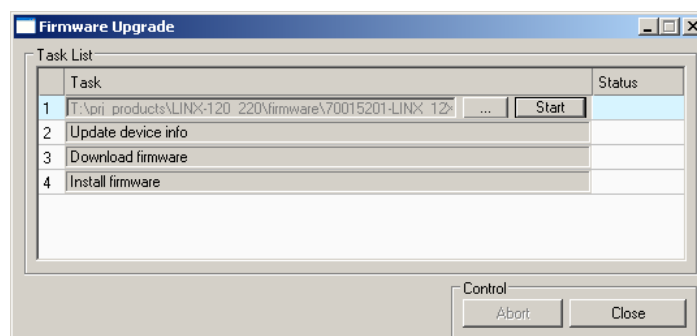

Figure 233: Firmware Update dialog of the Configurator.
8. This opens the **Firmware Update** dialog as shown in Figure 233. Click on the button  and select the firmware image.